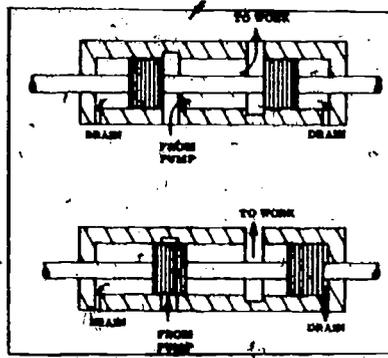

Fig 4-7. Simple directional control valve.
- (b) **Directional control valve.** This valve directs the fluid flow to the desired part of the hydraulic system. Some of the valves work automatically, but the one illustrated in figure 4-7 is moved by the operator or another force. The valve shown blocks the fluid-flow or opens ports to allow flow. It will allow the fluid to flow in one direction only, but there are valves which provide passages for fluid return and bypass. Study the illustration and you can see that when both large passages are open the fluid flows to the work. By moving the spool valve the passage from the pump can be closed off and stop the flow, but the fluid to the work is also trapped. The drains at each end prevent leakage by the spool (hydrostatic lock) causing the valve to lock in position. By combining two of these valves, a return passage for the fluid from the work could be provided.